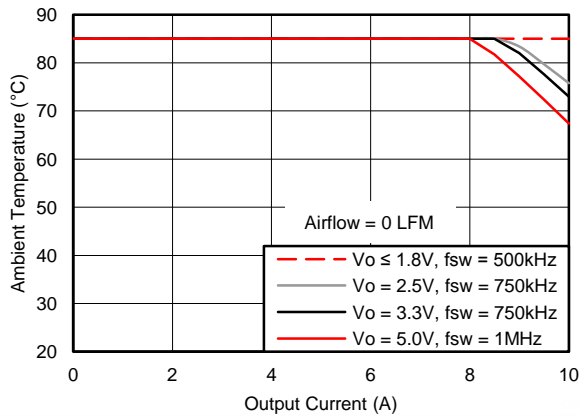
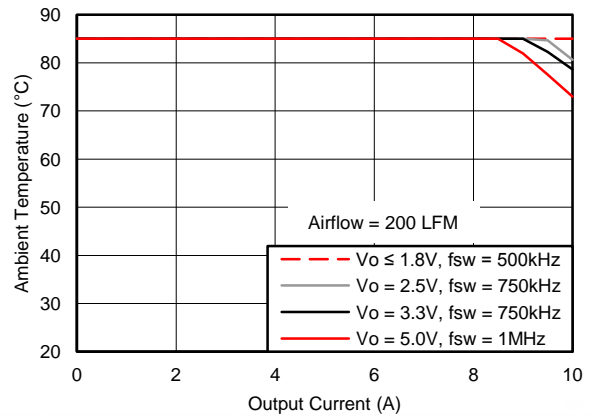

Figure 6. Safe Operating Area
Figure 7. Safe Operating Area
- (2) The temperature derating curves represent the conditions at which internal components are at or below the manufacturer's maximum operating temperatures. Derating limits apply to devices soldered directly to a 100 mm x 100 mm double-sided PCB with 2 oz. copper. Applies to Figure 6 and Figure 7.